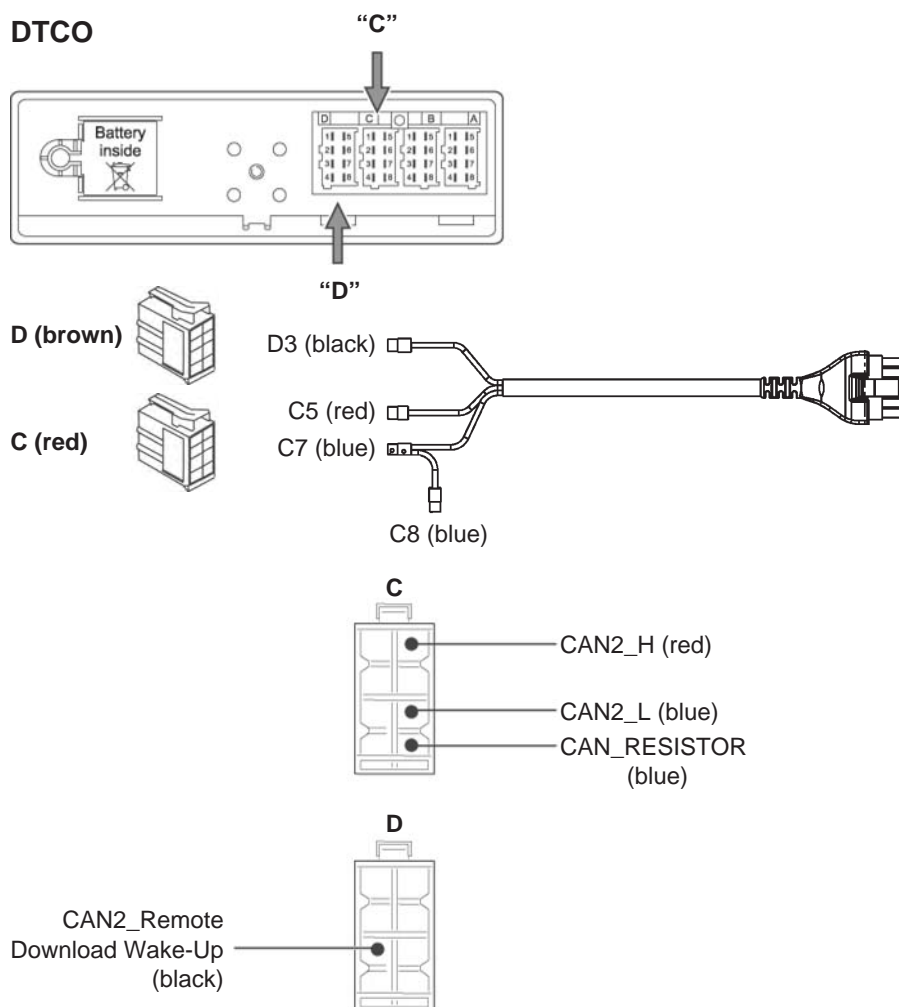
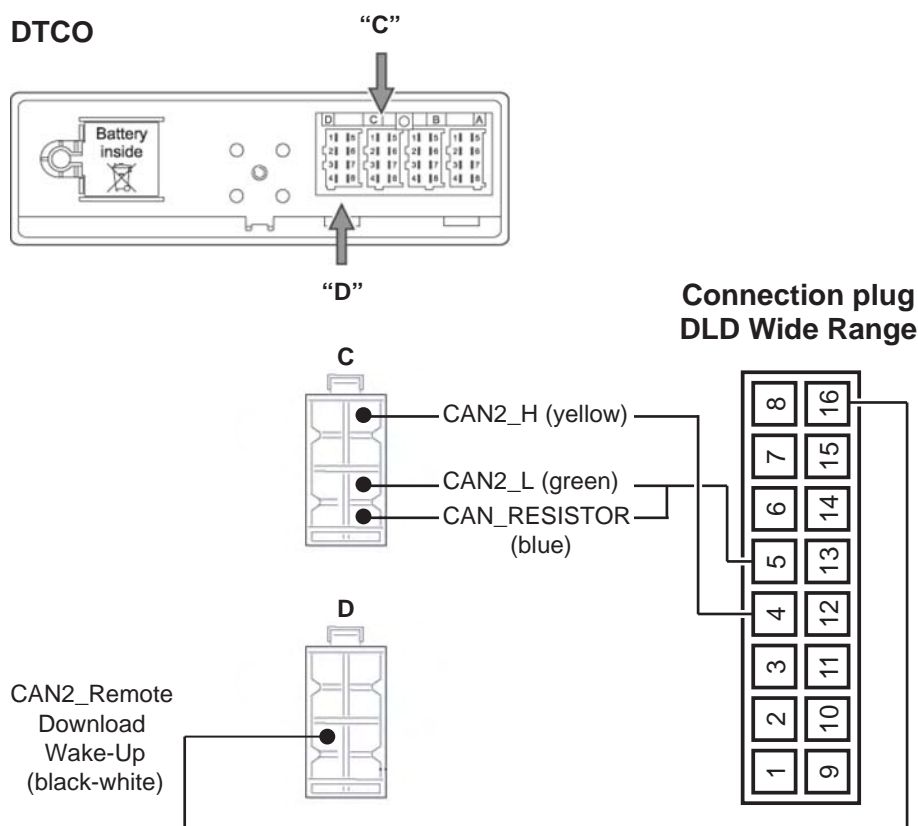

Fig. 18: Connections between the DLD Short Range and the DTCO 1381
Fig. 19: Connections between the DLD Wide Range and the DTCO 1381
- 4 Connect the connection cable to the C plug (red) and D plug (brown) of the DTCO 1381, as shown in *Figure 18* (DLD Short Range) or *Figure 19* (DLD Wide Range).